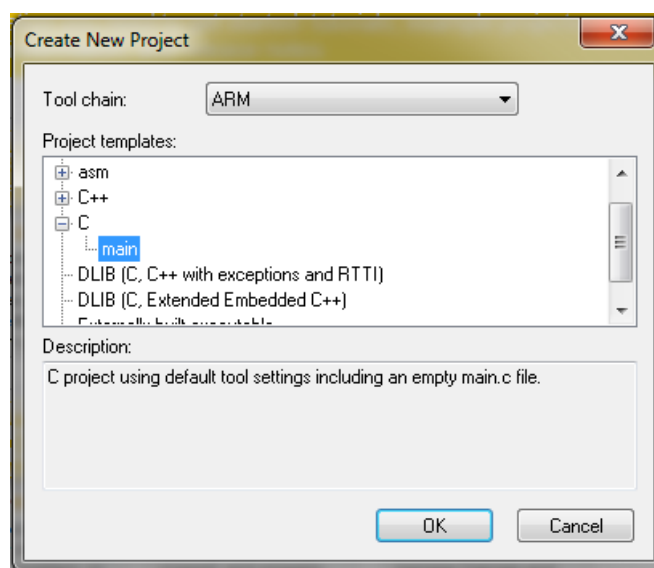

Figure 1-26. Create New Project dialog
2. In the main menu, select Project > Create New Project... so that the "Create New Project" dialog appears. See Figure 1-26.